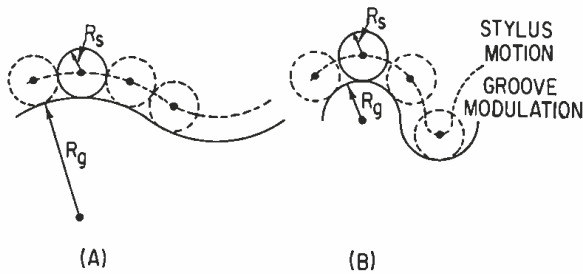

Figure 6. The effect of modulation level on tracing distortion. (A) low-level modulation and (B) high-level modulation.
Modulation amplitude: Tracing distortion is directly proportional to the modulation amplitude. As the modulation amplitude increases, the modulation radius decreases, see FIGURES 6(A) and 6(B), which makes the playback tip radius appear larger by comparison and thereby increasing distortion. FIGURE 6(B) shows a modulated groove which is the same as in FIGURE 6(A), but with a larger modulation amplitude. The
playback distortion from the groove in FIGURE 6(B) is greater than that from FIGURE 6(A). Tracing distortion is therefore greater at higher recorded levels.